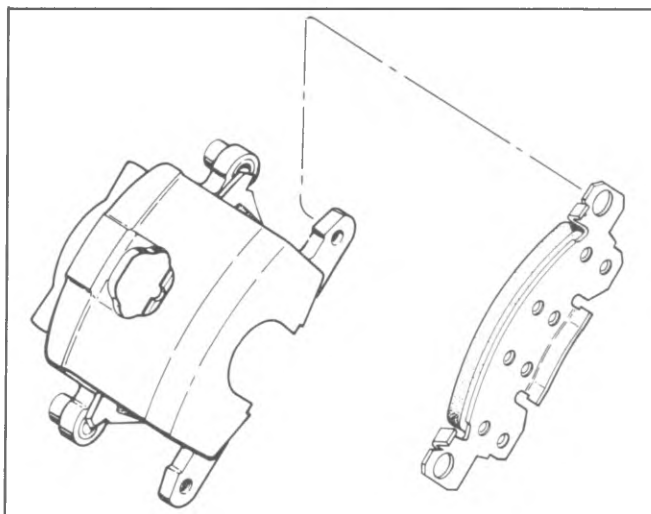

Fig. 5-28--Installing Outboard Shoe
5. Position the outboard shoe in the caliper, with the ears at the top of the shoe over the caliper ears and the tab at the bottom of the shoe engaged in the caliper cut-out (see fig. 5-28). Be sure to note right and left brake shoes. 6. Position the caliper over the rotor, lining up the holes in the caliper ears with the holes in the mounting bracket.